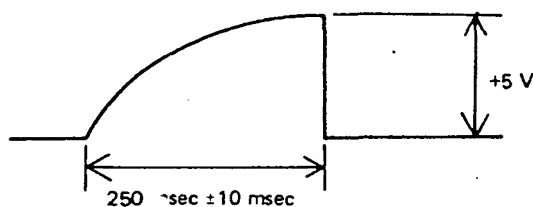

Fig. 5
4. Play any single key and adjust VR12 to obtain an attack time of 250msec \pm 10msec. See fig. 5.